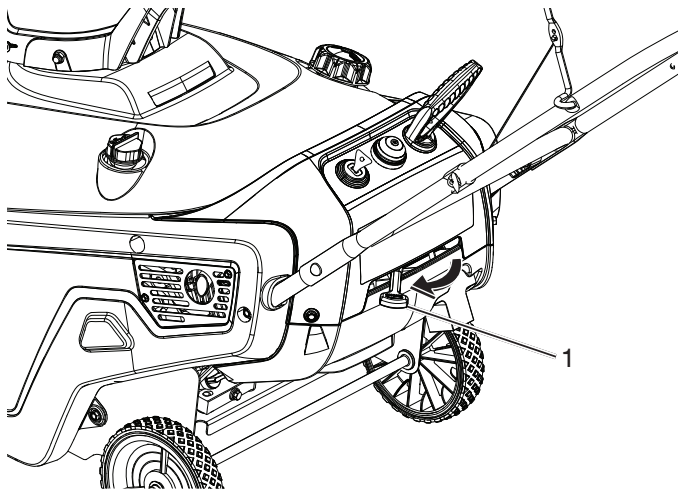

Figure 10
2. Move choke lever to left position (Figure 10).